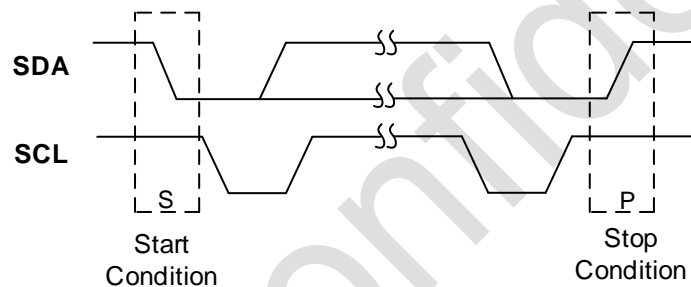

Figure 10. Start and Stop Conditions
- Start and stop condition: SDA high to low transition while SCL is high defines a Start condition. SDA low to high transition while SCL is high defines a Stop condition. (Refer to Figure 10)